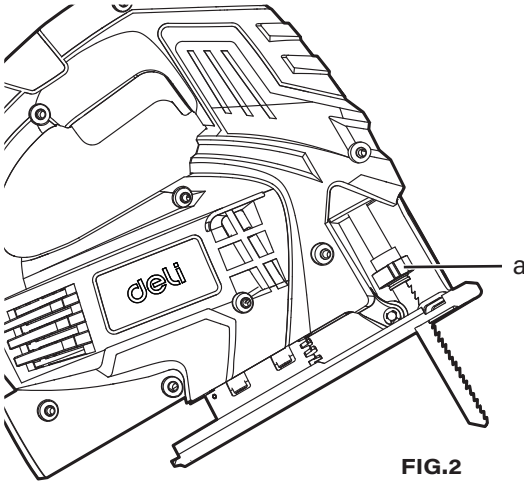

FIG.2
**Important:** Prior to any assembly and adjustment always unplug the tool. **Changing the blade** (See Fig. 2)